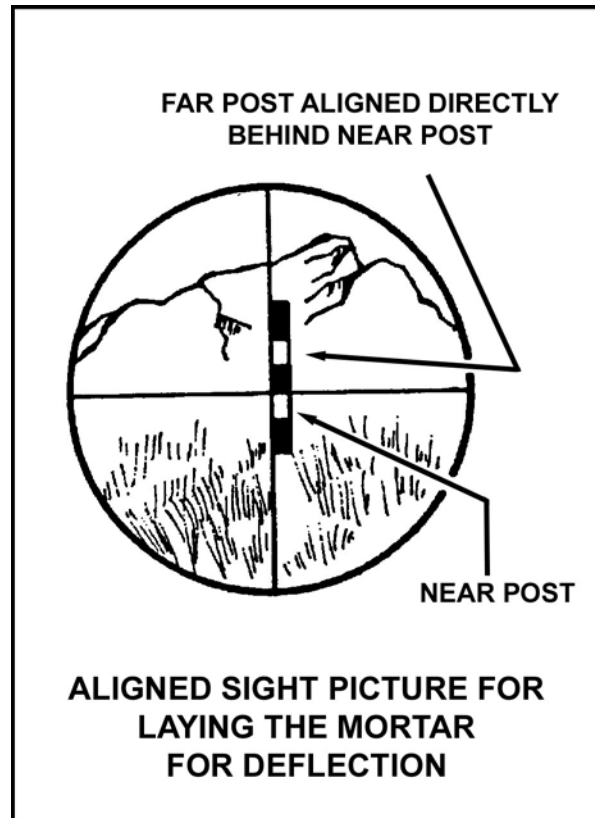

Figure 1. Sight picture.
- c. When satisfied with the sight picture (Figure 1) announce "Up."